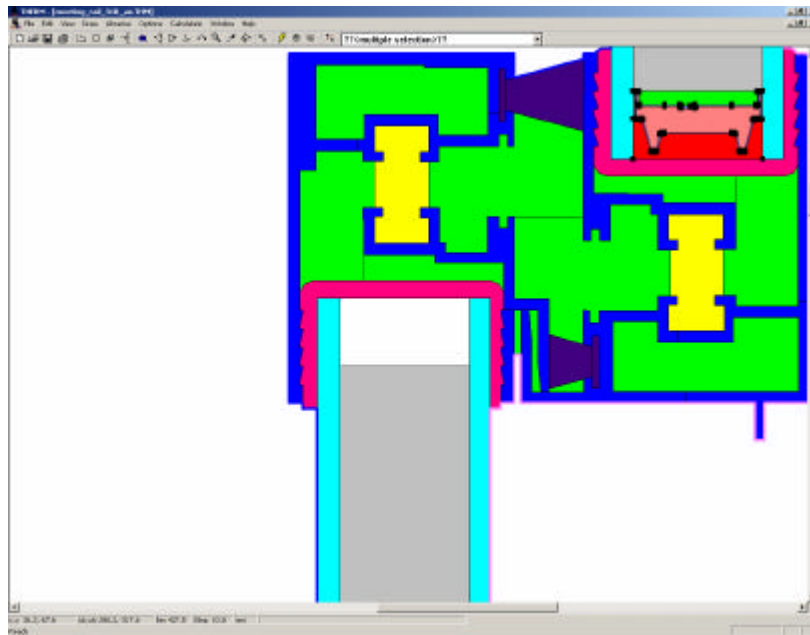

Figure 4-3: Spacer inserted into the glazing cavity spacer void (Up orientation)
- Spacer will be automatically inserted in the current THERM 5 project attaching its **upper left corner** to the project's Locator. Figure 4-3 shows the spacer inserted in glazing facing Up.